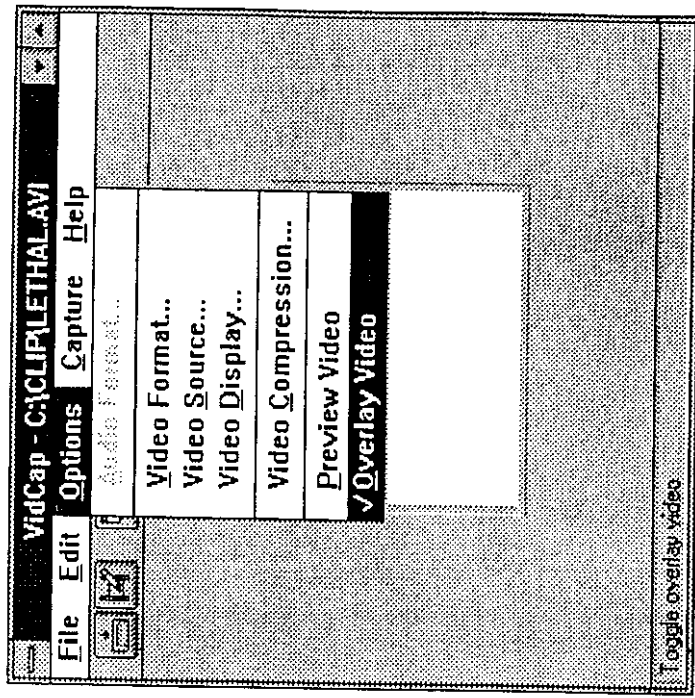

Figure 3-18.
3. In the VidCap program window, CLICK on verlay Video" under Options (See Figure 3-18).